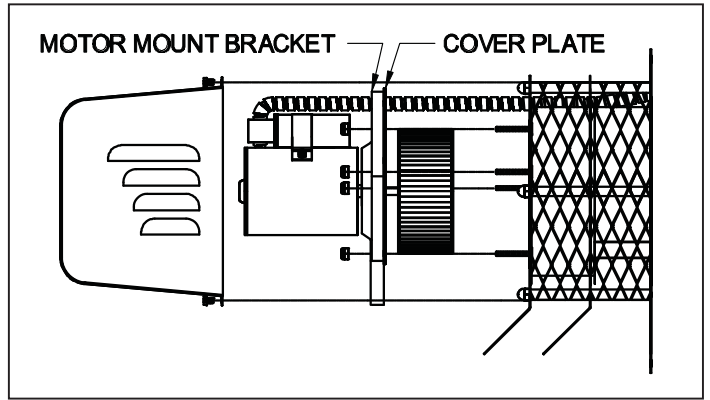

Figure 17
3. Remove the four nuts securing the motor assembly, and pull the motor assembly straight off of the unit. (See Figure 17)
1. Align the holes in the circular cover plate with the holes in the motor mount bracket on the motor assembly. (See Figure 17)
2. Slide the motor assembly onto the protruding threaded studs on the power venter body with the exhaust chute pointing downward, and replace the four nuts securely to the threaded studs. (See Figure 17)